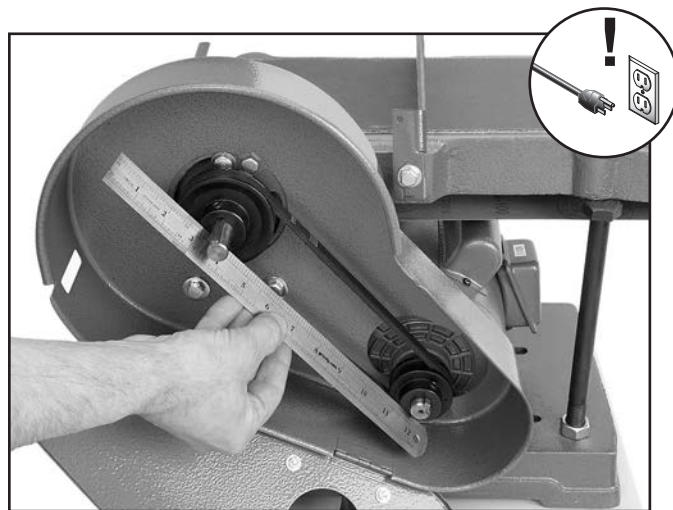

Figure 90. Checking pulley alignment.
5. Place a 12" straightedge across both pulleys, as shown in **Figure 90.**
6. Loosen the set screw on the pulley where you noticed the gap, then adjust the pulley so it touches the bottom of the straightedge when it is extended across both pulleys, as shown in **Figure 90.**